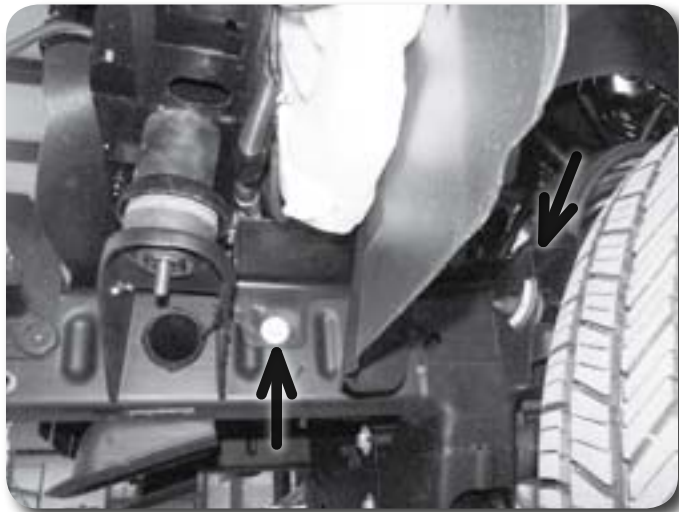

Figure 4
4. Disconnect the outer bumper supports from the bumper **Figure 3**. Save bolts. If equipped, remove the small plastic shroud from the driver's side frame rail **Figure 4** that is positioned directly behind the front body mount. This shroud will be modified before reinstalling later in the installation.